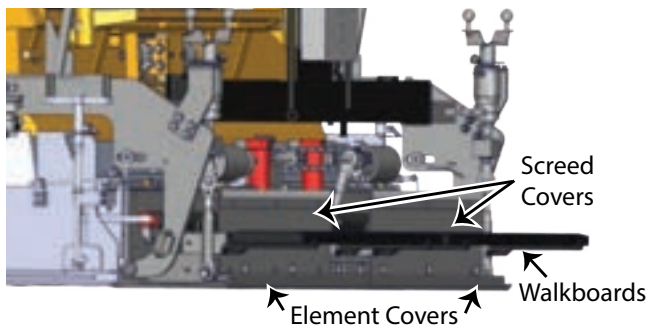

Figure 5-39. Walk Boards and Covers
2. Unbolt and remove the rear walk boards. **(Figure 5-39)**